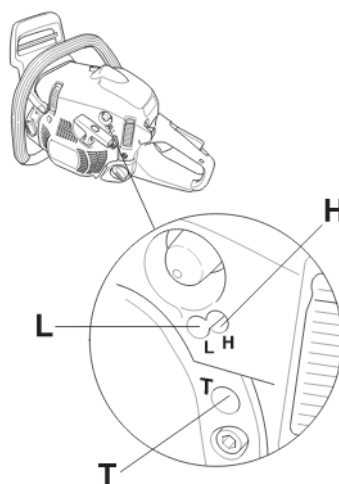

Fig. 43
- Screw the new L-needle to the bottom and then turn it counterclockwise "C" turns. (see figure 43)